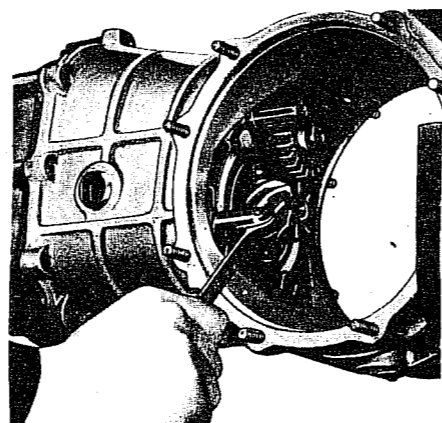

Fig. E.13. Unbolting the drive pinion bearing retainer.
6. Remove the screws which secure the bearing retainer (Fig. E 13). The lock plates must be straightened first and care must be taken not to damage the pinion.